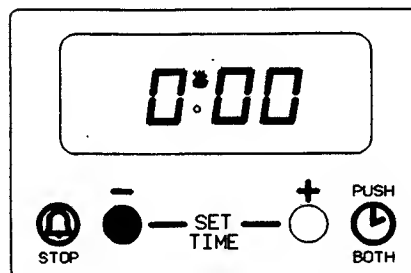

Fig. 6.8
Press and hold button (1) and the display will count down in one minute intervals to 0:00. See Fig. 6.8. Release button (1).